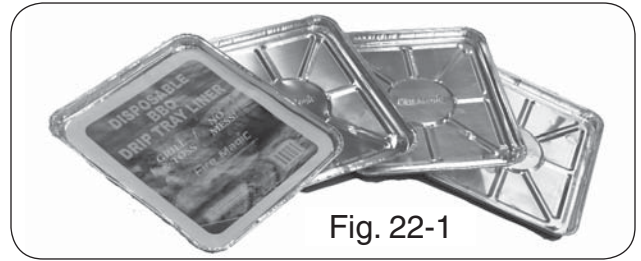

Fig. 22-1
Your grill includes a pack of four (4) Fire Magic® drip tray liners (Fig. 22-1). For your convenience in cleanup, place a liner into the drip tray before grilling.